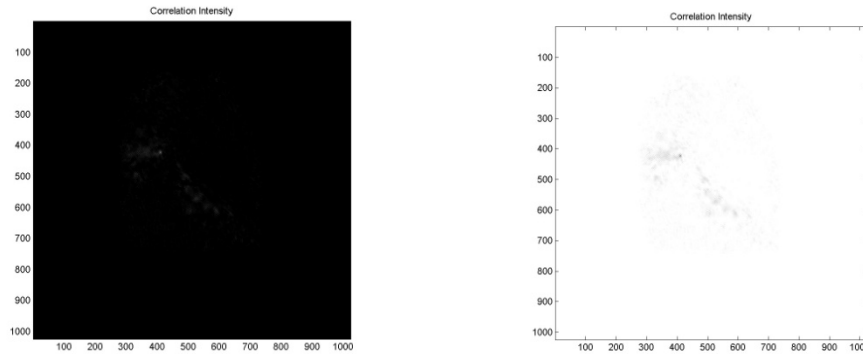

Figure 5:(left) Correlation Response. (right) Negative image.
- Correlation response from test image and detection filter is shown in Fig. 5. The white spot is the location of the match. Sometimes this is visualized by using “vga” like colors, marking the peak with cross hairs and/or using a dB based plot. Also, a negative image can be used to visualize a response that is predominantly black which also saves ink in printing out the results.